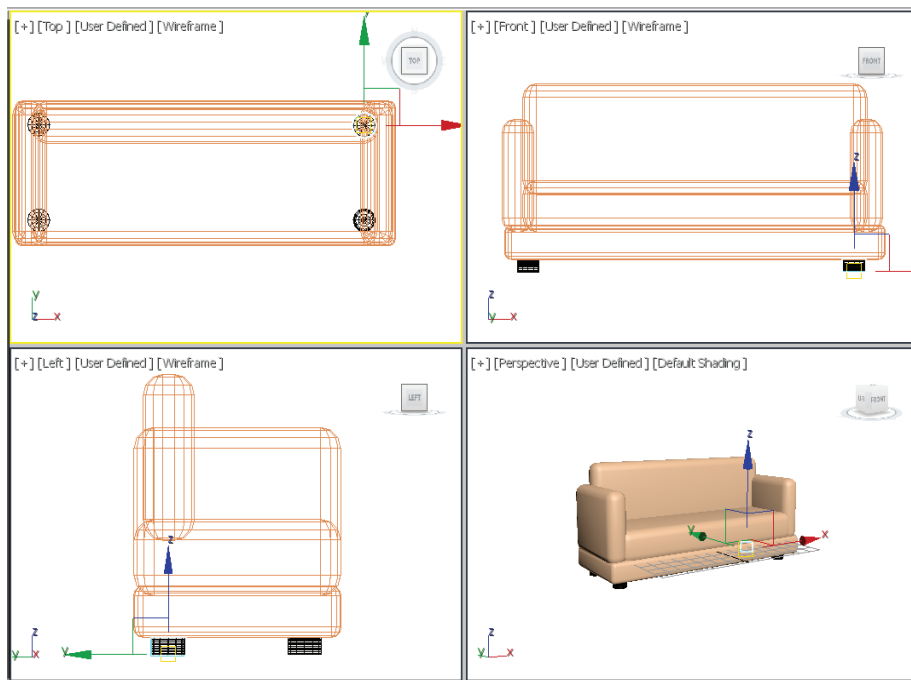

Figure 3-28 All supports aligned in viewports
7. Create three copies of *support1* as discussed earlier and align them, as shown in Figure 3-28.